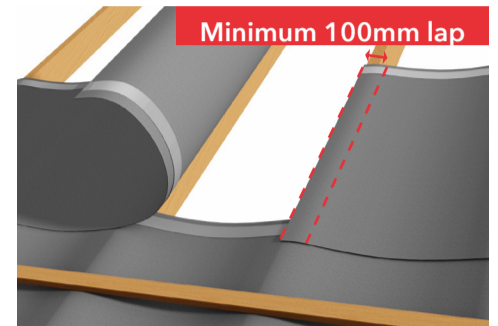

fig 4: Vertical laps
5. Vertical overlaps should be a minimum of 100mm and coincide with rafter positions where the underlay is unsupported (fig. 4). The distance from fixing to the edge of the underlay should be a minimum of 50mm. Avoid vertical laps over the same rafter in consecutive courses.